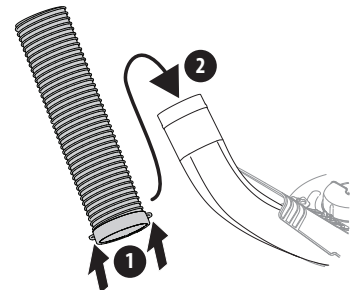

Figure 20
2. Slide the hose over the boot mounted on the cutting deck, as shown in Figure 20.